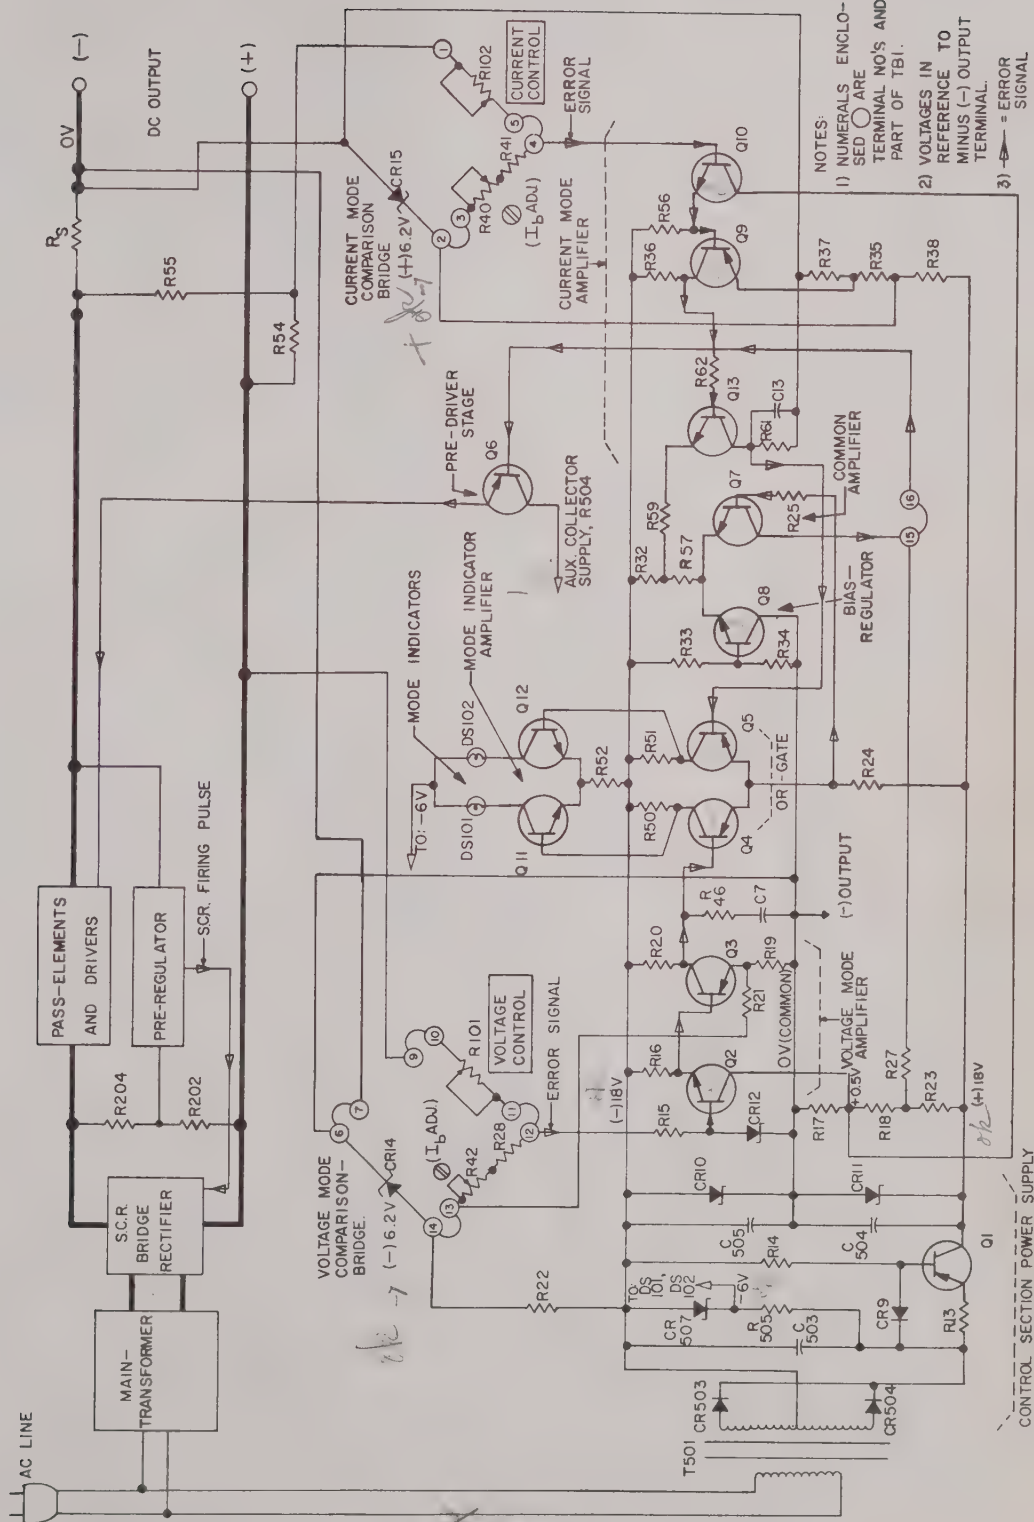

FIG 4-7 CONTROL SECTION, KS POWER SUPPLIES, SIMPLIFIED.
4-13 CONTROL SECTION (Refer to Fig. 4-7)
- a) Control Circuit Power Supply. (Refer to Fig. 4-7) This highly regulated supply delivers the fixed operating voltages for the voltage mode and current mode amplifiers, as well as the reference voltages for the voltage mode and current mode comparison bridges. It is derived from a centertapped winding on T501 and consists of a full-wave rectifier with capacitor-input filter (CR503, CR504, C503), a series current regulator stage (Q1), and the zener regulator diodes CR10 and CR11 for the minus and plus 18 volts respectively. The negative and positive 18 volt supplies are filtered by C505 and C504 respectively. The voltage reference diode (CR14) is fed from the negative 18 V source and the current reference (CR15) from the positive 18 V source.